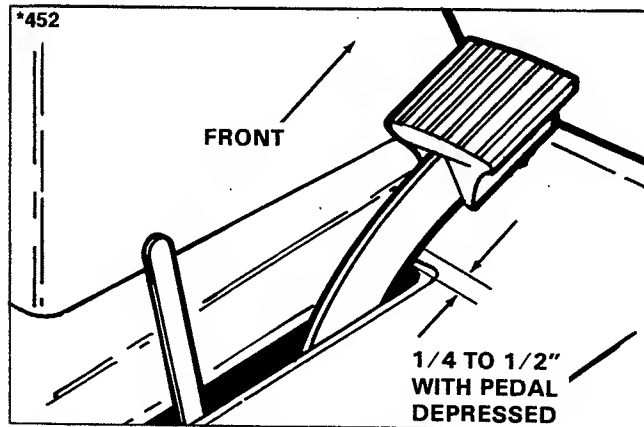
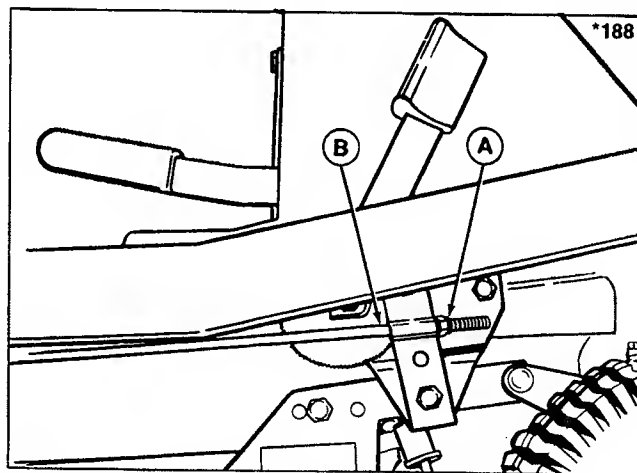

Figure 12. Clutch-Brake Adjustment
Figure 13. Clutch-Brake Adjustment
1. Press the pedal down as far as it will go (use normal braking force). There should be 1/4 inch to 1/2 inch clearance between the brake pedal and the front edge of the slot (see figure 12). If not, adjust the locknut (A, figure 13) by turning with a wrench. Move the locknut toward the rear to increase clearance or toward front to decrease clearance. Press the pedal down to recheck clearance. When correct, go on to step 2.